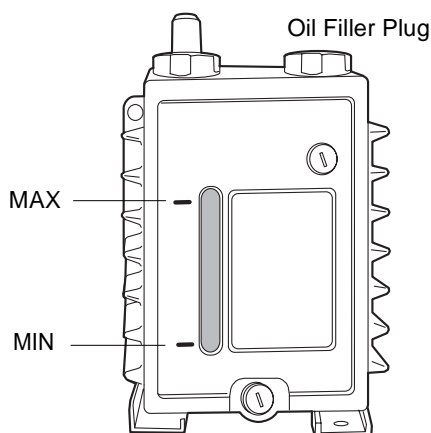

Figure 2-2 Pump Oil Level
- b. Pour oil into the pump until the level reaches the MAX mark on the bezel at the oil-level sight glass. If the level exceeds the MAX mark, remove the drain plug, and let the excess oil drain (Figure 2-2).